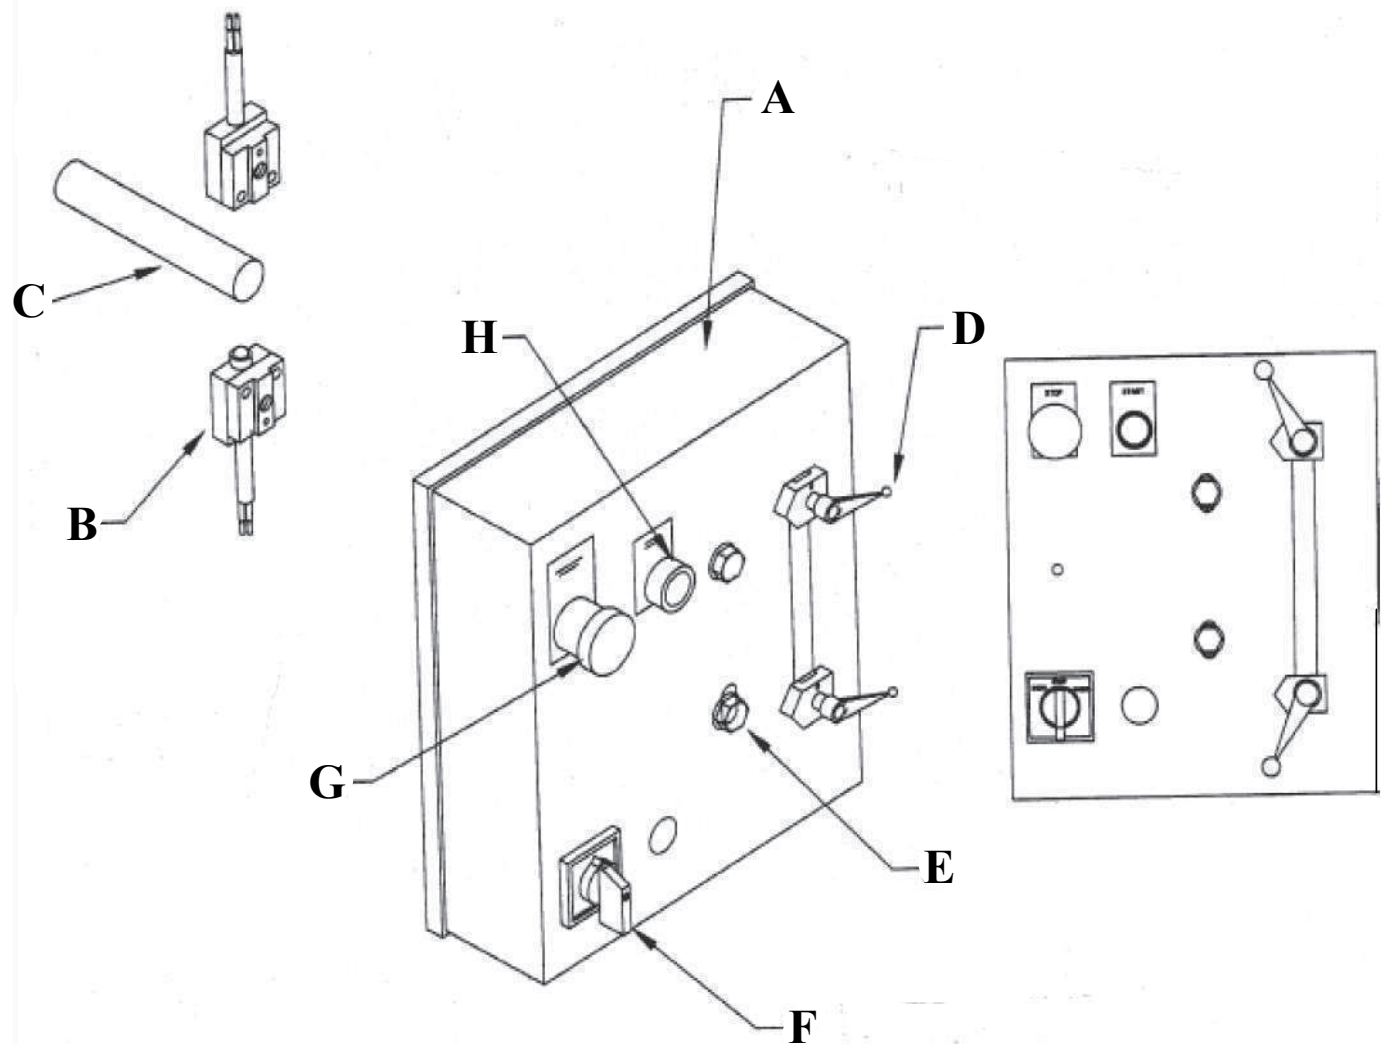

FIGURE 8
**REFER TO FIGURE 8 ON THE PRECEDING PAGE.**
- 2. Set the stroke control handles (D) out to their farthest position.**
- 3. Place the disconnect switch in the ON position and both selector switches (F) in the START position. Check that both E-STOP buttons are released. Power the machine.**
- 4. Turn the Shear/Probe switch (F) to the SHEAR position.**
- 6. To double check, with the foot switch still depressed, turn the machine's power OFF and check to see if the switch actuator (C) has contacted the lower limit switch (B). Also, check to see if the blades have cross-over at the Shear and Angle Stations.**
- 7. If the actuator has not contacted the limit switch, loosen the two mounting plate screws (E) and move the mounting plate (A) up until contact is made.**
- 10. To double check, turn the machine's power OFF and check to see if the switch actuator (C) has contacted the upper limit switch (B). Also, the round and square holes in the section blades should be in line.**